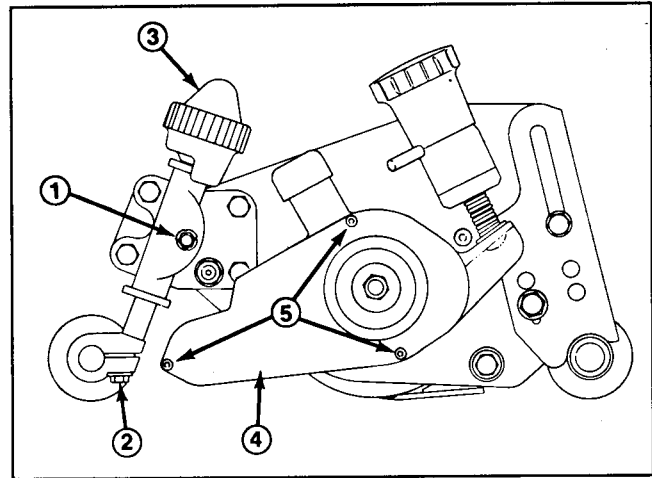

Figure 39
2. Loosen two (2) set screws and remove clutch knob. Remove groomer reel housing cover from left side of cutting unit (Fig. 39).
19. Adjust belt tension. (See Groomer Reel Drive Belt Adjustment in the Adjustments section of this book.) Install groomer reel housing cover (Fig. 39). Install clutch knob and tighten two (2) set screws against flats of clutch release disk.
1. Loosen two (2) set screws and remove clutch knob (Fig. 6). Remove groomer reel housing cover from left side of cutting unit (Fig. 39).